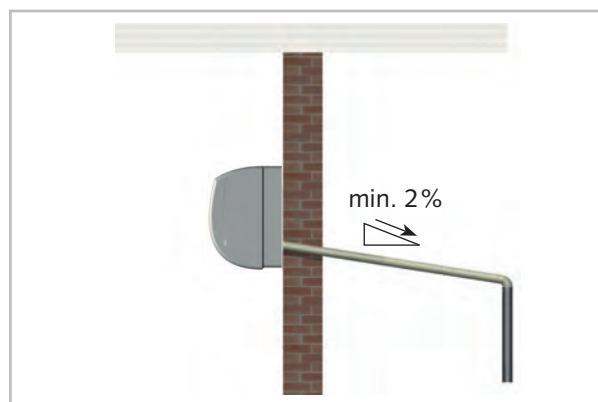

Fig. 17: Condensate drainage connection
- The condensate drainage line provided by the customer should have an incline of at least 2% (Fig. 17). If necessary, fit vapour-diffusion-proof insulation.